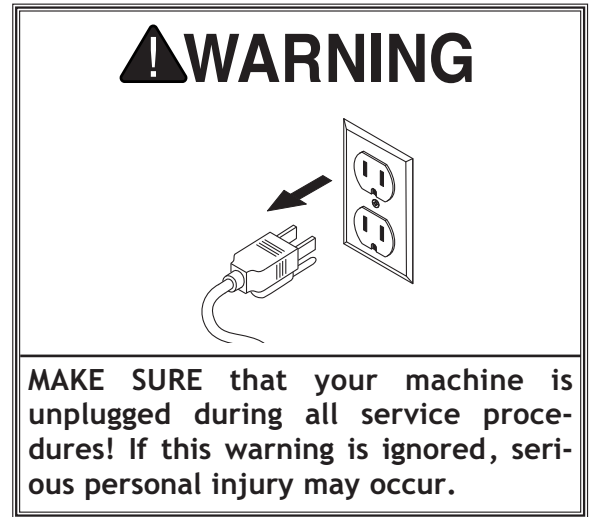

Figure 51. Lower wheel.
Perform this adjustment if the **Wheel Alignment Test** procedure from **Page 36** indicates you must do so. This adjustment will tilt the bottom wheel (see **Figure 51**) so both wheels are aligned with each other.
3. Loosen all the jam nuts on the tilt adjustment hub (see **Figure 51**).